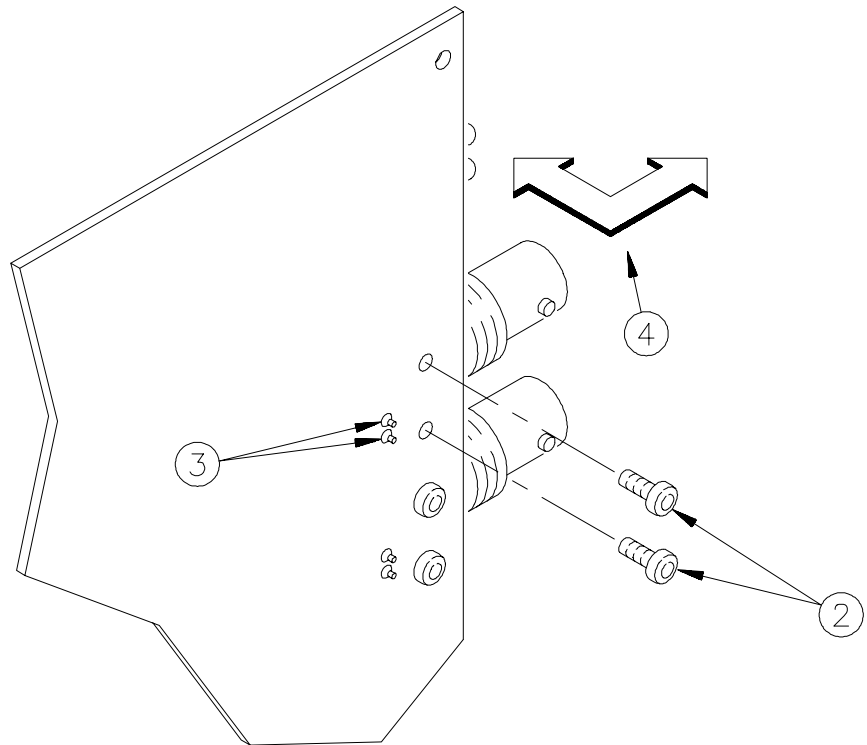

Figure 8-4. Remove/Install a BNC Connector.
- Step 2** Remove the two torx screws that secure the BNC connector to the PC board (see Figure 8-4).
- Step 3** Unsolder the BNC connector from the PC assembly at its two solder points (see Figure 8-4).